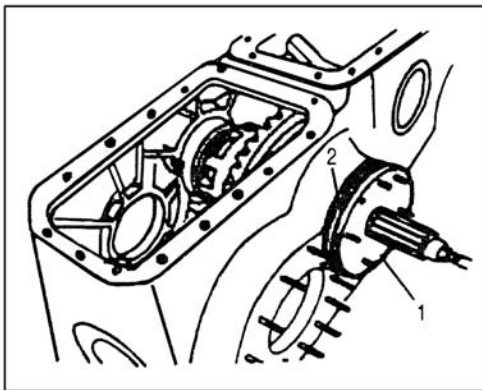

Fig.21 Clearance Adjustment of Differential Bearing
b. Axial Clearance Adjustment of Differential Gear Assembly Bearing 30215 (Fig.21).